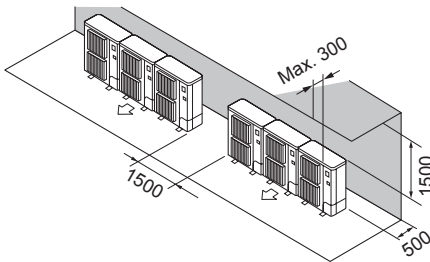

Fig. 2-10
- ② Obstacles at rear and above (Fig. 2-10)